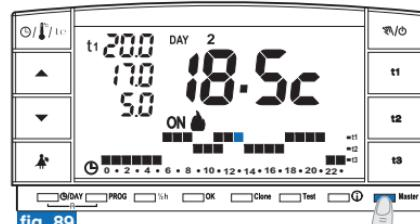

fig. 89
- briefly press the "Master" key; the message **Master** will disappear from the display, the chronothermostat will remain in programme function and the zones assigned to the master will return under the control of their transmitters (example fig. 89).